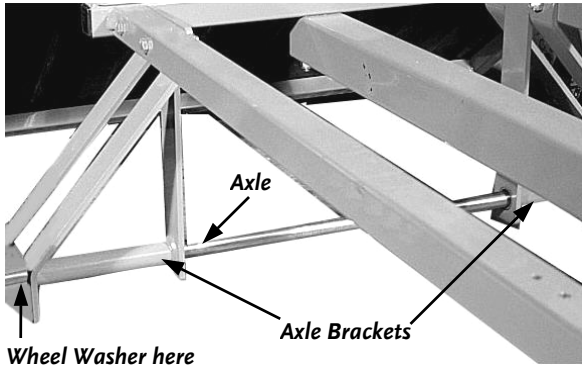

Figure 3
9. Slide a Flat Wheel Washer over the Axle and up against the Axle Bracket (**Figure 3**).